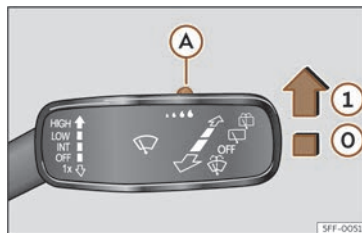

Fig. 104 Windscreen wipers lever: adjust the rain sensor (A).
Push the lever to the desired position >>> **Fig. 104**.
- ① Rain sensor off.
- ① Rain sensor on; automatic wipe if necessary.
When the ignition is switched off and then back on, the rain sensor stays on and starts operating again when the windscreen wipers are in position >>> **Fig. 104** ① and the vehicle is travelling at more than 16 km/h (10 mph).